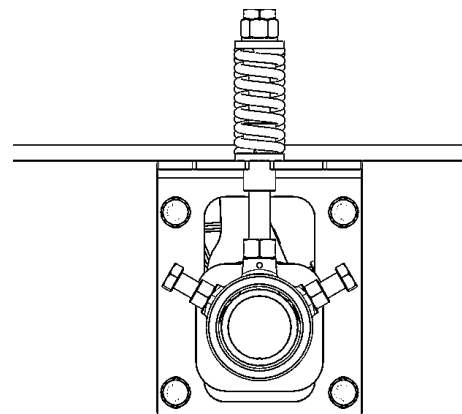

Fig 10
- 11- referring to spring compression chart (fig 10, page 13) tension cleaners
(fig 10)